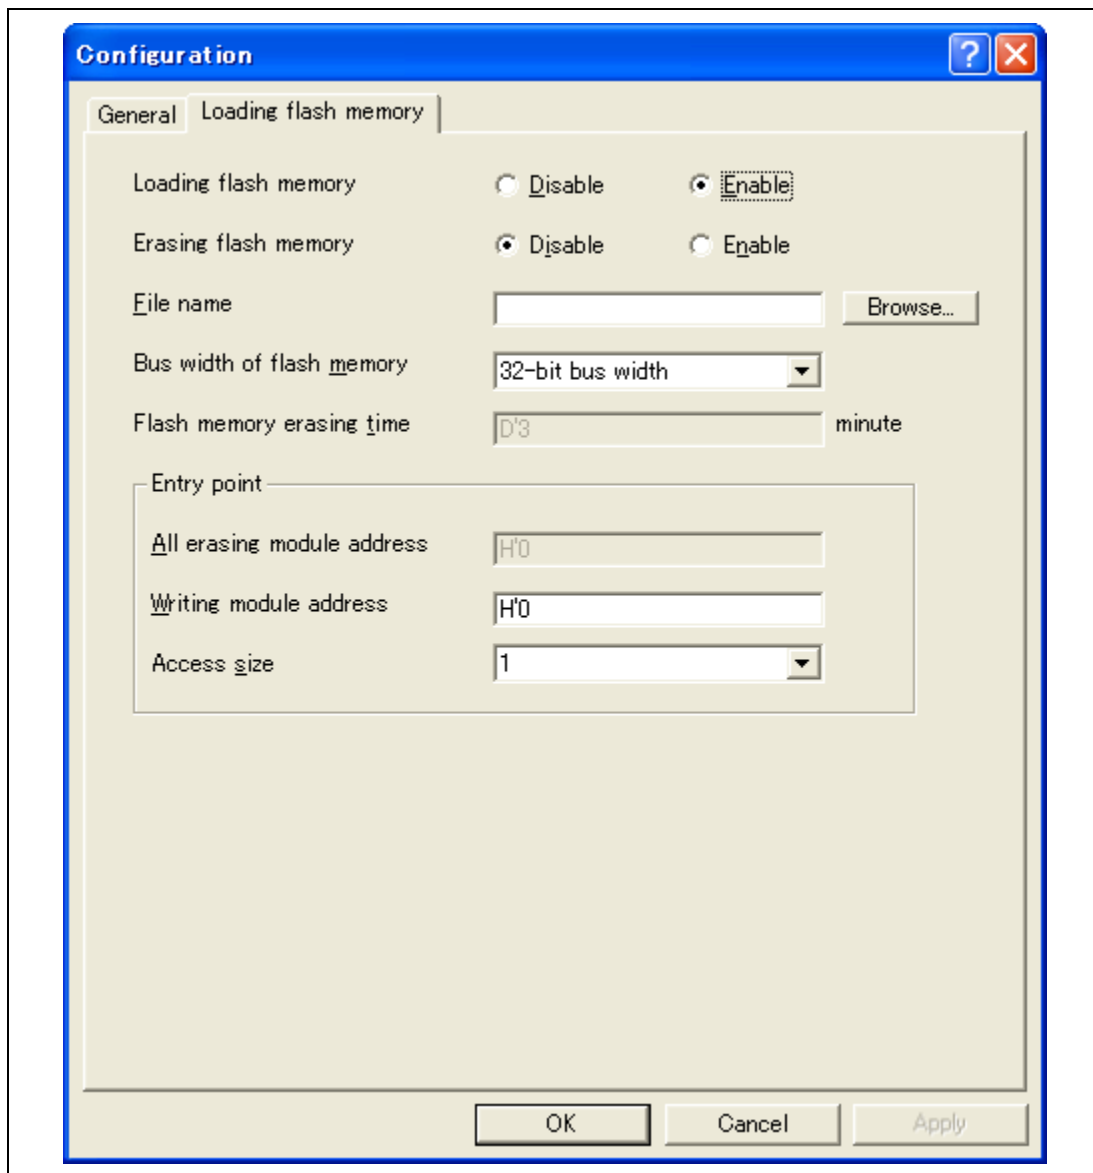

Figure 6.65 [Loading flash memory] Page
2. This function is not available when the SH7047F, SH7144F, or SH7145F is in use. For these MCUs, the [Loading flash memory] page shown in figure 6.65 will not be displayed.